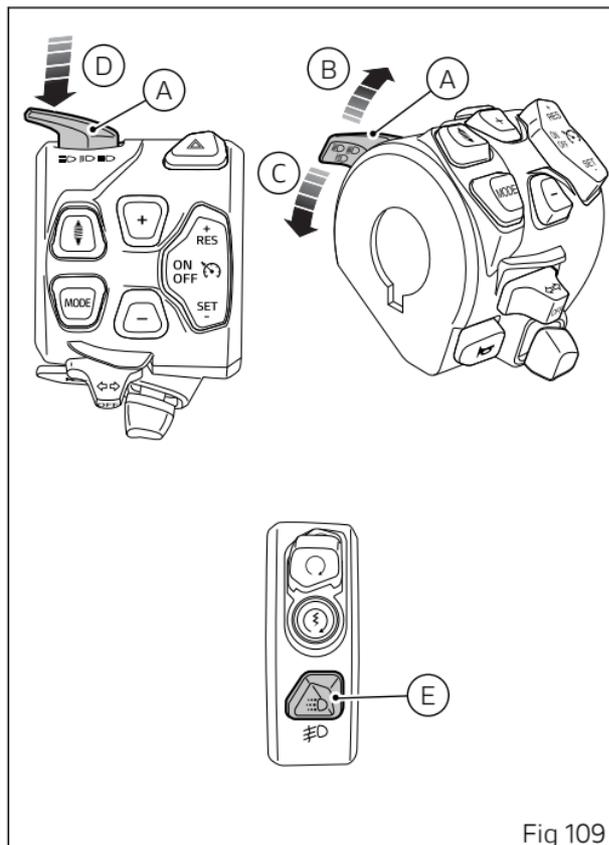

Fig 109
When the DRL is set to "Auto" mode, the corresponding warning light will turn on. If the DRL was set to "Auto" mode, press button (E, Fig 109) to disable that mode and set manual light management. Press again button (E, Fig 109) to re-enable DRL but with control strategy set to "Manual".
If the DRL lights are in this mode, as set through the "DRL" function within the "Setting menu" (page 264) DRL lights will not change their status upon key-on. To switch on or off the DRL lights, it is necessary to press button (E, Fig 109).
- if DRL lights are present, press and hold button (E, Fig 109) for a long time;
- if DRL lights are not present, press button (E, Fig 109).